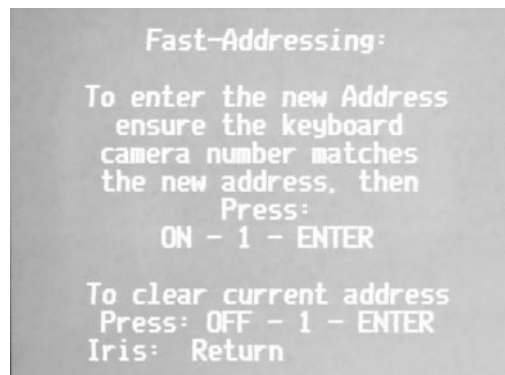

Figure FA3
4. Press ON-636-ENTER. The screen shown in FIGURE FA3 is displayed. At this point, Camera ID 26636 will be the only camera in the *Fast Addressing* mode.